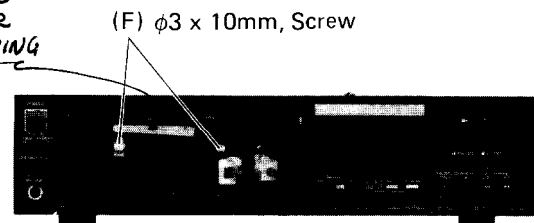

Figure 12
2. Remove two screws (F) securing tray mold, and the tray mold will be removed. (See Figure 12)